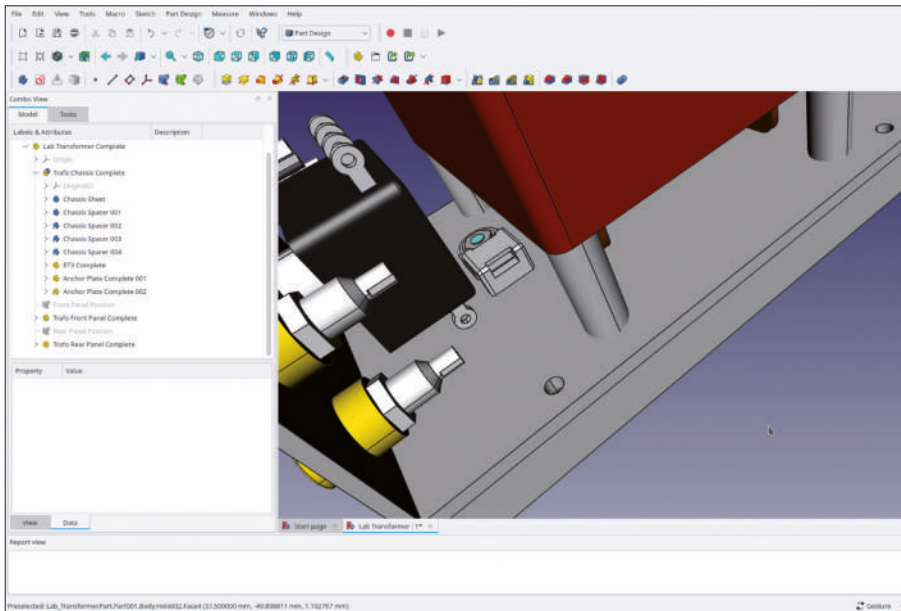

Figure 9-93
6. In the tree view, display the transformer 'ETD3 Complete' again with the SPACE key. Visually inspect the anchor plates in their locations (Figure 9-93).